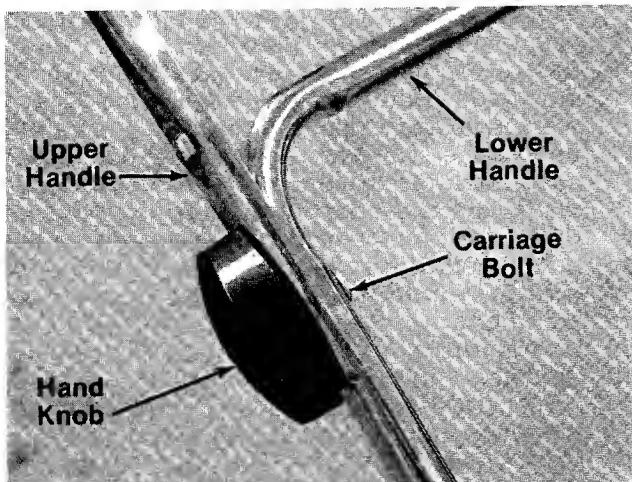

FIGURE 2.
3. Assemble upper handle to lower handle. Secure with two carriage bolts and handle knobs as shown in figure 2. The knobs may be assembled either to the inside or the outside of the handle.